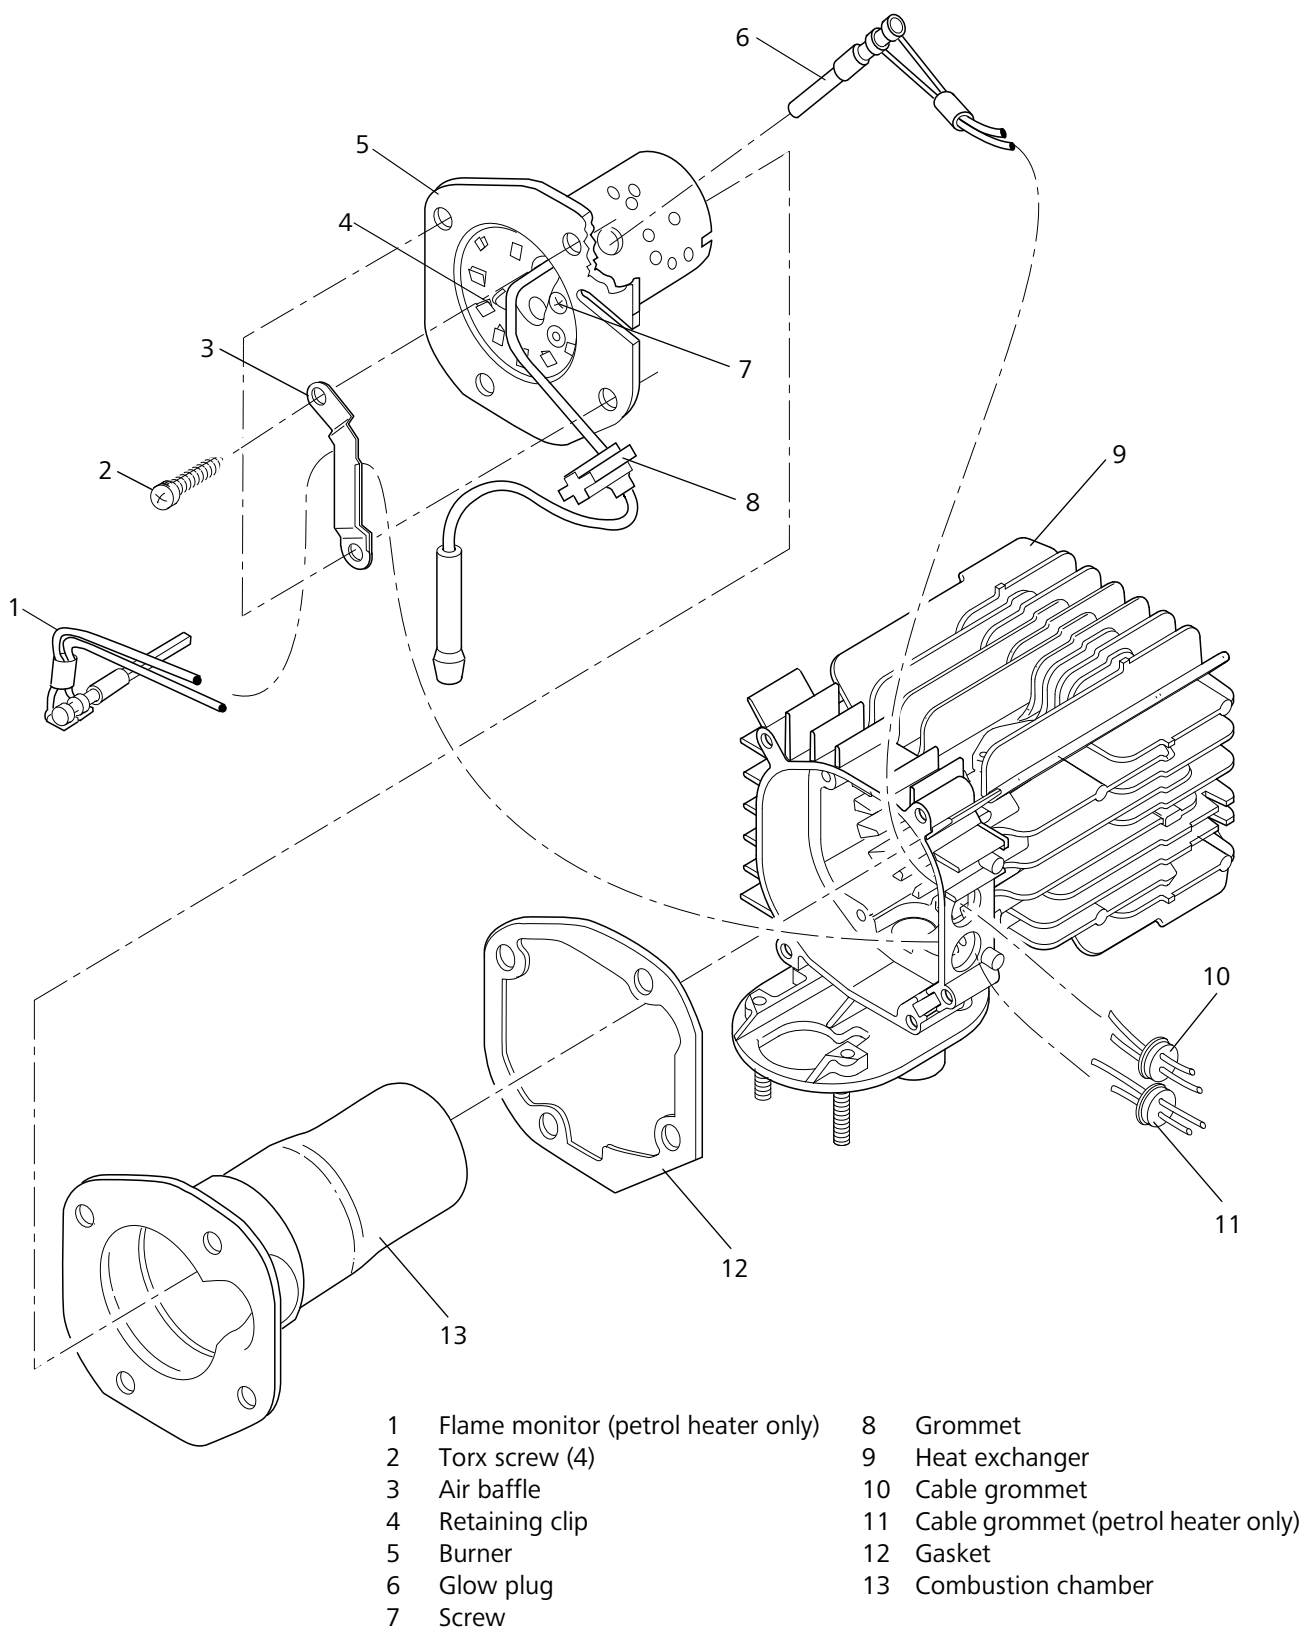

Fig. 904 Changing glow plug, replacing flame monitor, burner and heat exchanger
1. Push flame monitor (1, Fig. 904) through under the fuel line, guide the connector through the hole in heat exchanger (9) and press cable grommet (11) from the inside into the heat exchanger (9).
2. Route cable with protective sheathing through retaining clip (4) and fit flame monitor (1) in burner (5).
3. Press retaining clip (4) back together.
4. Secure air baffle (3) with screws (2).
5. Tighten screws (2) to 6 ± 0.6 Nm.
5. Press cable grommet (10, Fig. 904) inwards and out of heat exchanger (9).
6. Remove four screws (2) and air baffle (3).
1. Fit new gasket (12, Fig. 904) in heat exchanger (9) and place combustion chamber (13) in assembly position.
2. Make sure that the starting air hole in the burner (5) is clear.
8. Remove burner (5, Fig. 904).
9. Remove combustion chamber (13) and gasket (12) from heat exchanger (9) and dispose of gasket (12).